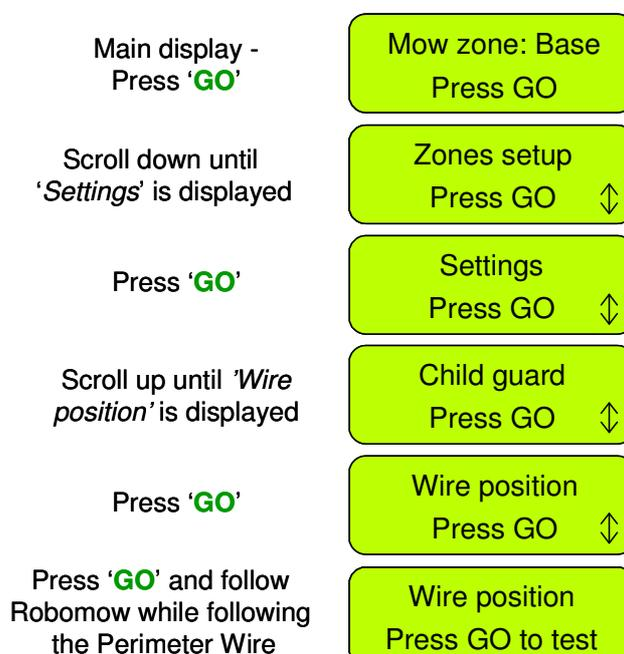

Figure 1.44
- Test the perimeter wire setup by choosing the '**Wire position**' menu as shown in figure 1.44. Robomow will follow the wire, while the mowing motor is switched off to prevent any damage to the perimeter wire after the initial setup; Walk along the side of the Robomow while it is following the edge until completing one loop of the perimeter without striking any object; If Robomow collides in obstacle, it stops and drives back to allow you adjusting the wire position.